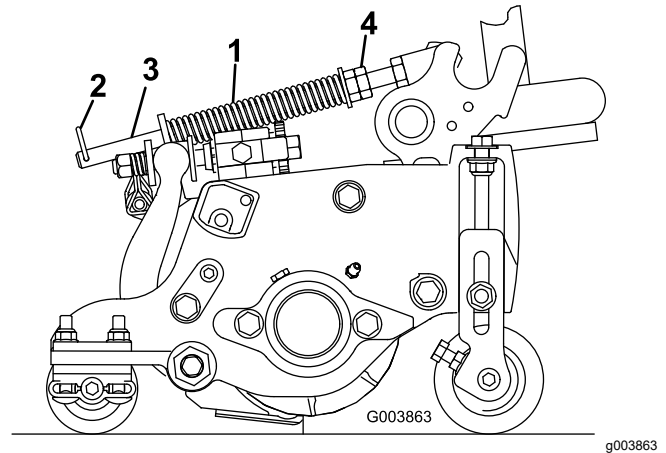

Figure 21
The turf compensation spring (Figure 21) transfers weight from the front to the rear roller. (This helps to reduce a wave pattern in the turf, also known as marcelling or bobbing.)
1. Make sure the hairpin cotter is installed in the rear hole in the spring rod (Figure 21).
2. Tighten the hex nuts on the front end of the spring rod until the compressed length of the spring is 6.25 inches (15.9 cm) (Figure 21).